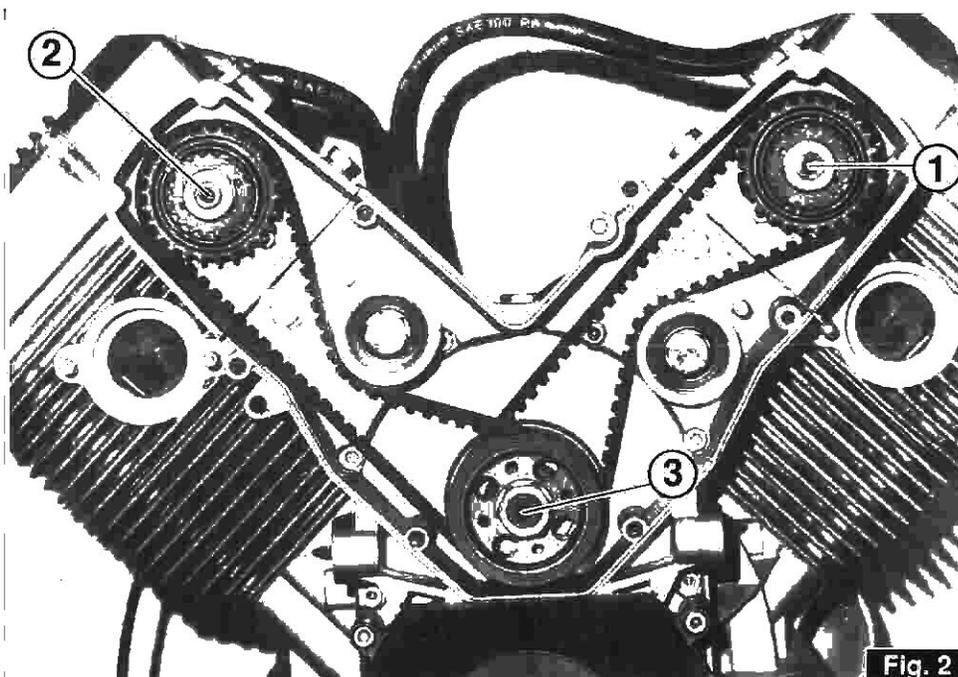

Fig. 2
- Check the timing references as indicated in fig.2;